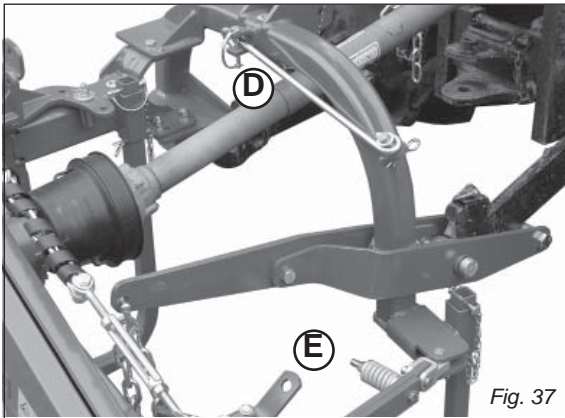

Fig. 37
- Remove safety hook (D, Fig. 37), required only for transportation, and fit it back in the slot positioned above the chassis.